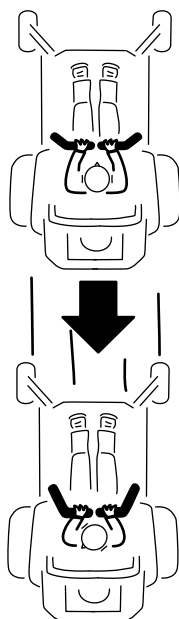

Figure 25
2. To go backward, slowly pull the motion control levers rearward (Figure 25).